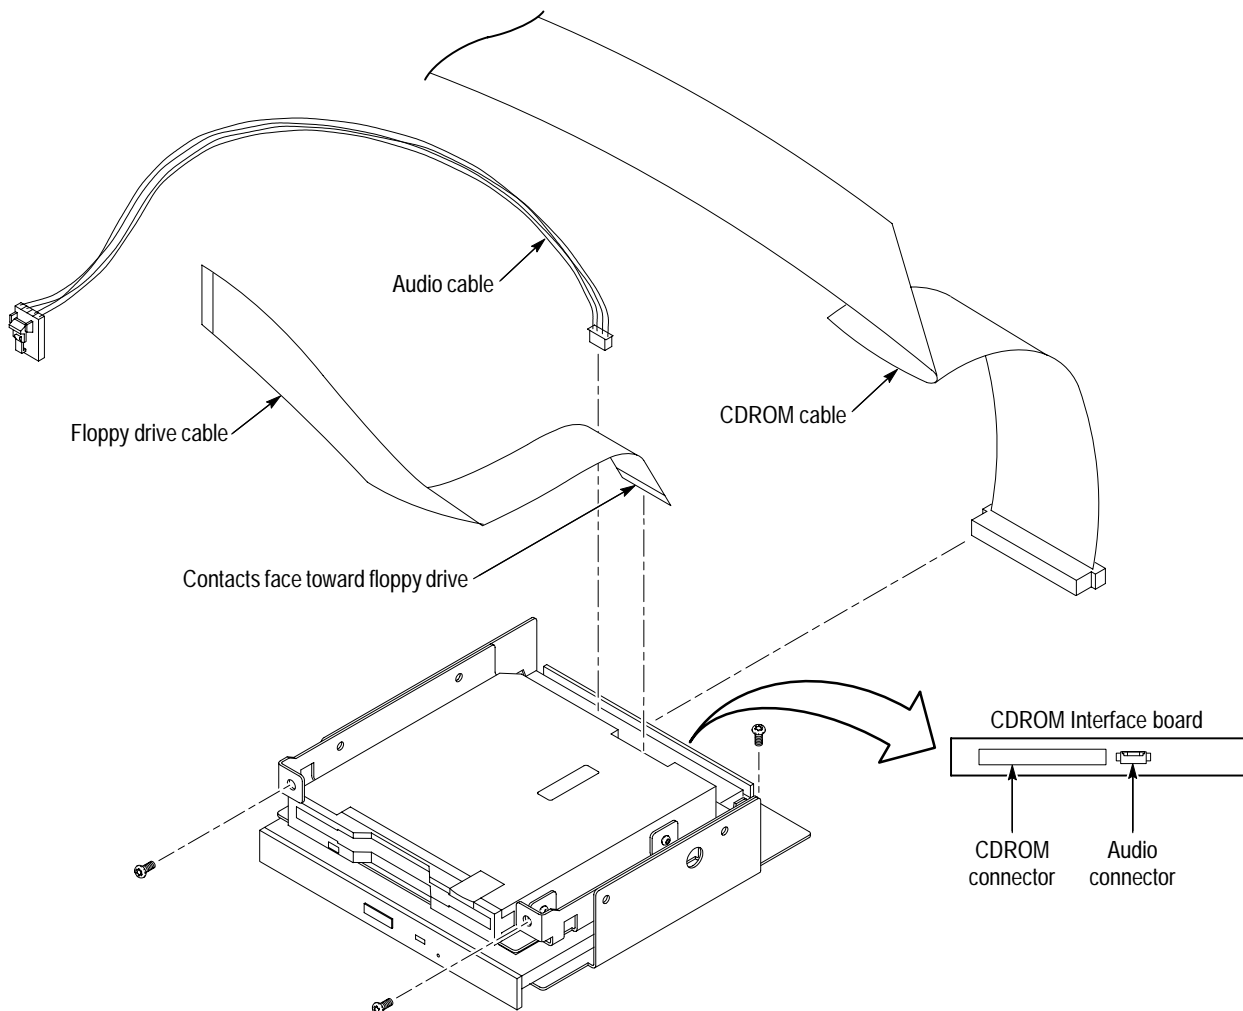

Figure 6–14: Connecting the Floppy disk and CD-ROM drive assembly cables
- b. With the contacts of the short end of the floppy drive cable facing toward the floppy drive, insert the cable into the floppy drive connector as shown in Figure 6–14.
6. Attach the CD-ROM cable to the connector on the CD-ROM Interface board as shown in Figure 6–14.